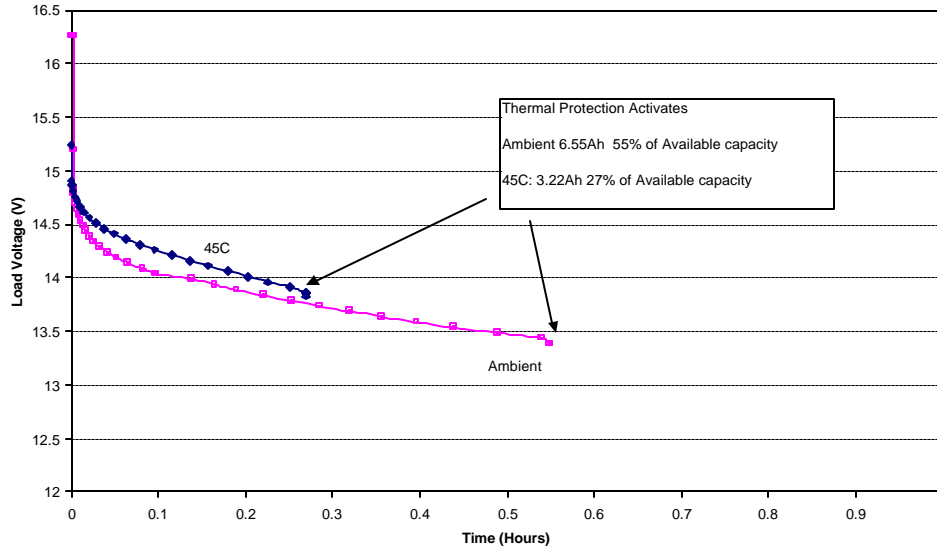

FIGURE 1
- 7.4. **NOTE:** The continuous use of the battery at or near max discharge capability, especially at elevated temperatures, will cause reset-able internal thermal protection devices to activate. See Figure 1.